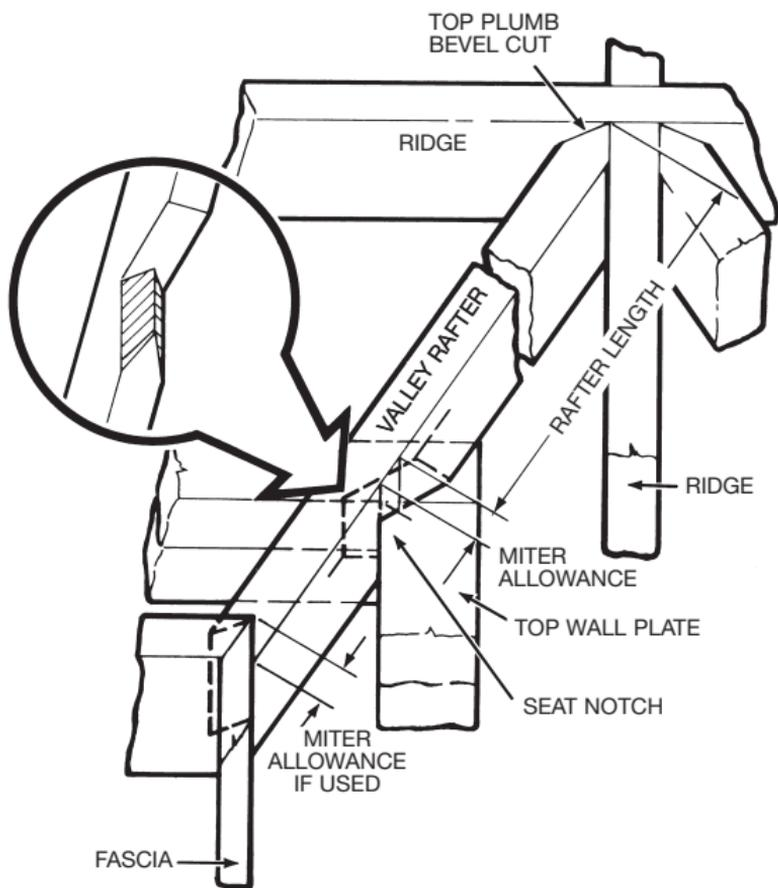
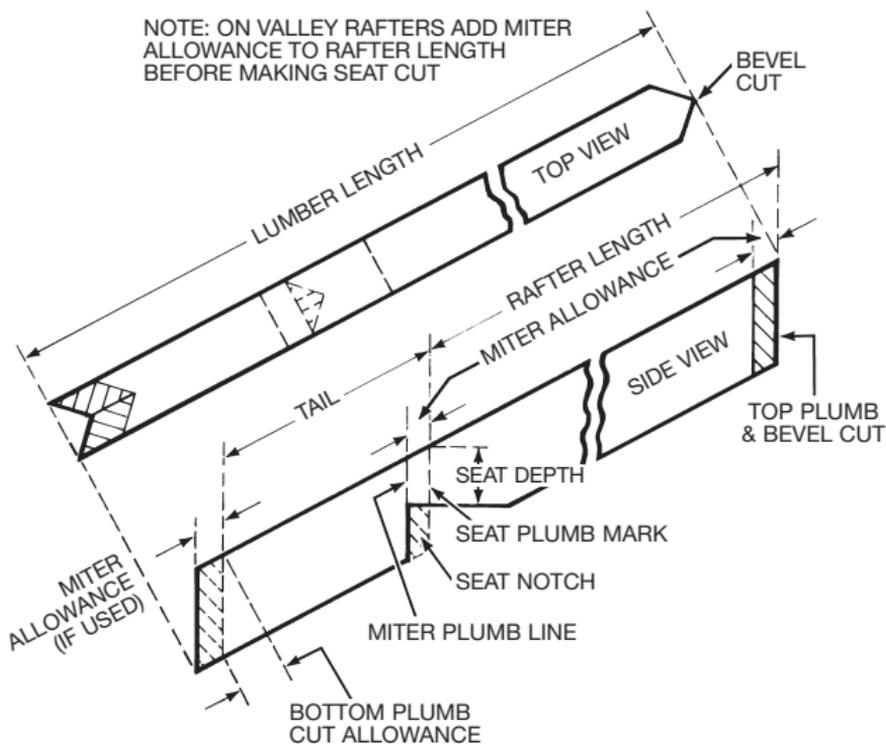

FIG. 12 View of Valley Rafter Layout.
FIG. 13 Valley Rafter Layout.
STEP 1. TOP PLUMB CUT: Using the Hip-Val scale again, make the top plumb mark in the usual way. Now measure down the top of the rafter from this mark for a miter allowance, if used (see Figures 12 and 13). Look up the allowance in the Tables under the rise and the rafter thickness that you are using (in our example: 8" rise and 1 1/2" actual rafter thickness, resulting in a 7/8" allowance). Then make two plumb marks on both sides of the rafter for the top plumb bevel cuts.
STEP 2. SEAT NOTCH: From the first top plumb mark, measure down the rafter length (in our example: 20' 3 7/8") and make the seat plumb mark (see Figure 13). Now, go down the rafter from the seat plumb mark the miter allowance distance (found in the table for your inch rise and actual rafter thickness) and make a plumb line for the miter allowance. Draw the same miter plumb line on the other side of the rafter for making the bevel cut. This mitered seat cut will allow the valley rafter to fit down over the crotch formed by the joining wall plates (see Figure 12). Next, to make the horizontal seat mark, measure down to the seat depth on the seat plumb mark (not the miter plumb line). Aligning the dashed line on our square with the seat plumb mark, draw a perpendicular line using the bottom edge of our Square to the edge of the rafter. Also extend the horizontal seat mark to the added miter allowance plumb line (see Figures 7 and 13). Double check to see that all seat notches are the same depth.
allowance in the measurement, if used (see Figure 13). Make the bottom plumb mark with the square in the normal manner.
STEP 4. RAFTER PATTERN CUTS: To make the top and bottom cuts, tilt the saw at 45° (see Figure 13). Also make the seat miter cuts. Now change the saw tilt to 90° for the horizontal seat cut. You may want to check for proper fit and use this rafter as a pattern for the other valley rafters.